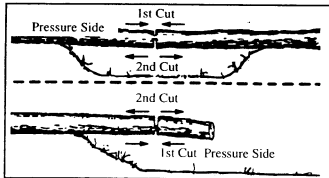

Figure 24
- Give special attention to logs under strain to prevent the saw from pinching. Make the first cut on the pressure side to relieve the stress on the log. Figure 24.